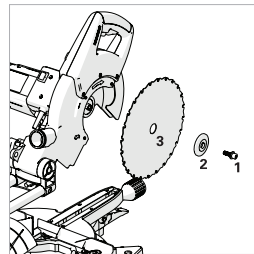

Fig. 40a
- Using the supplied Hex Key, release the arbor screw and outer-blade flange and the blade from the arbor. **(Fig. 40a)**.